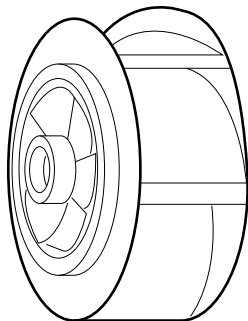

FIGURE 33. Enclosed Impeller
- The enclosed impeller is used universally in centrifugal pumps that handle clear liquids (Figure 33). It incorporates shrouds or enclosing sidewalls that totally enclose the impeller “waterways” from the suction eye to the impeller periphery.